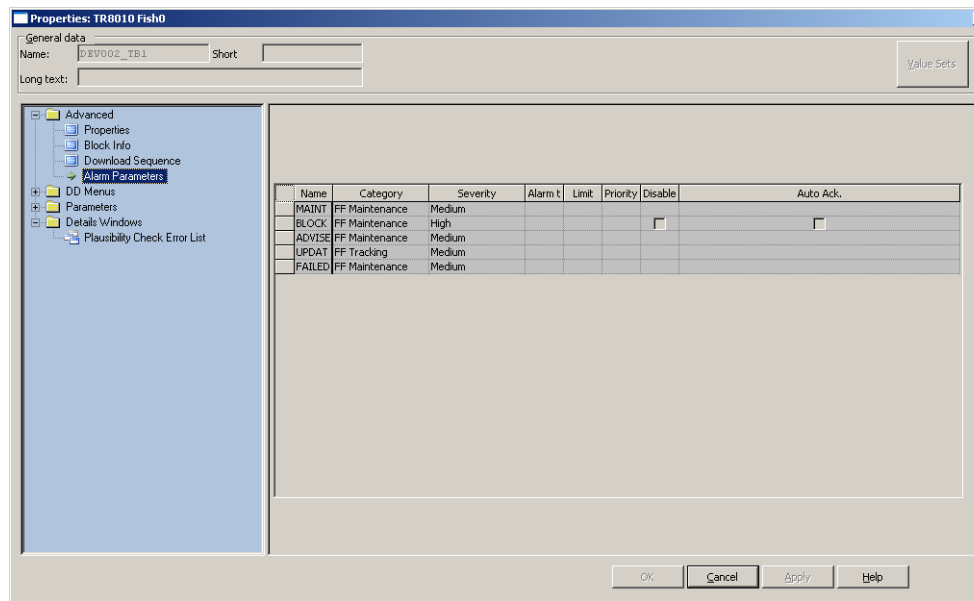

Figure 172. Alarm Parameters Tab
- c. enter alarm texts for FF Process alarms (refer to Figure 172).